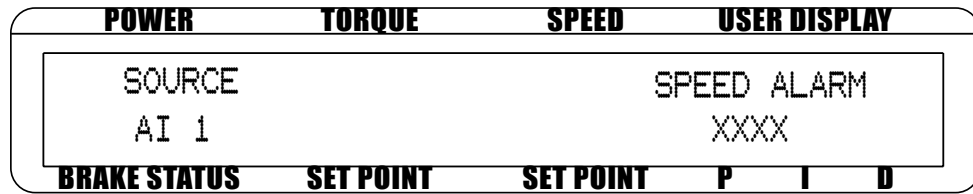

Figure 3-31 AI 1 Menu
3. Press SCALE P to display the System Setup Menu. *See figure 3-31 System Setup Menu.*